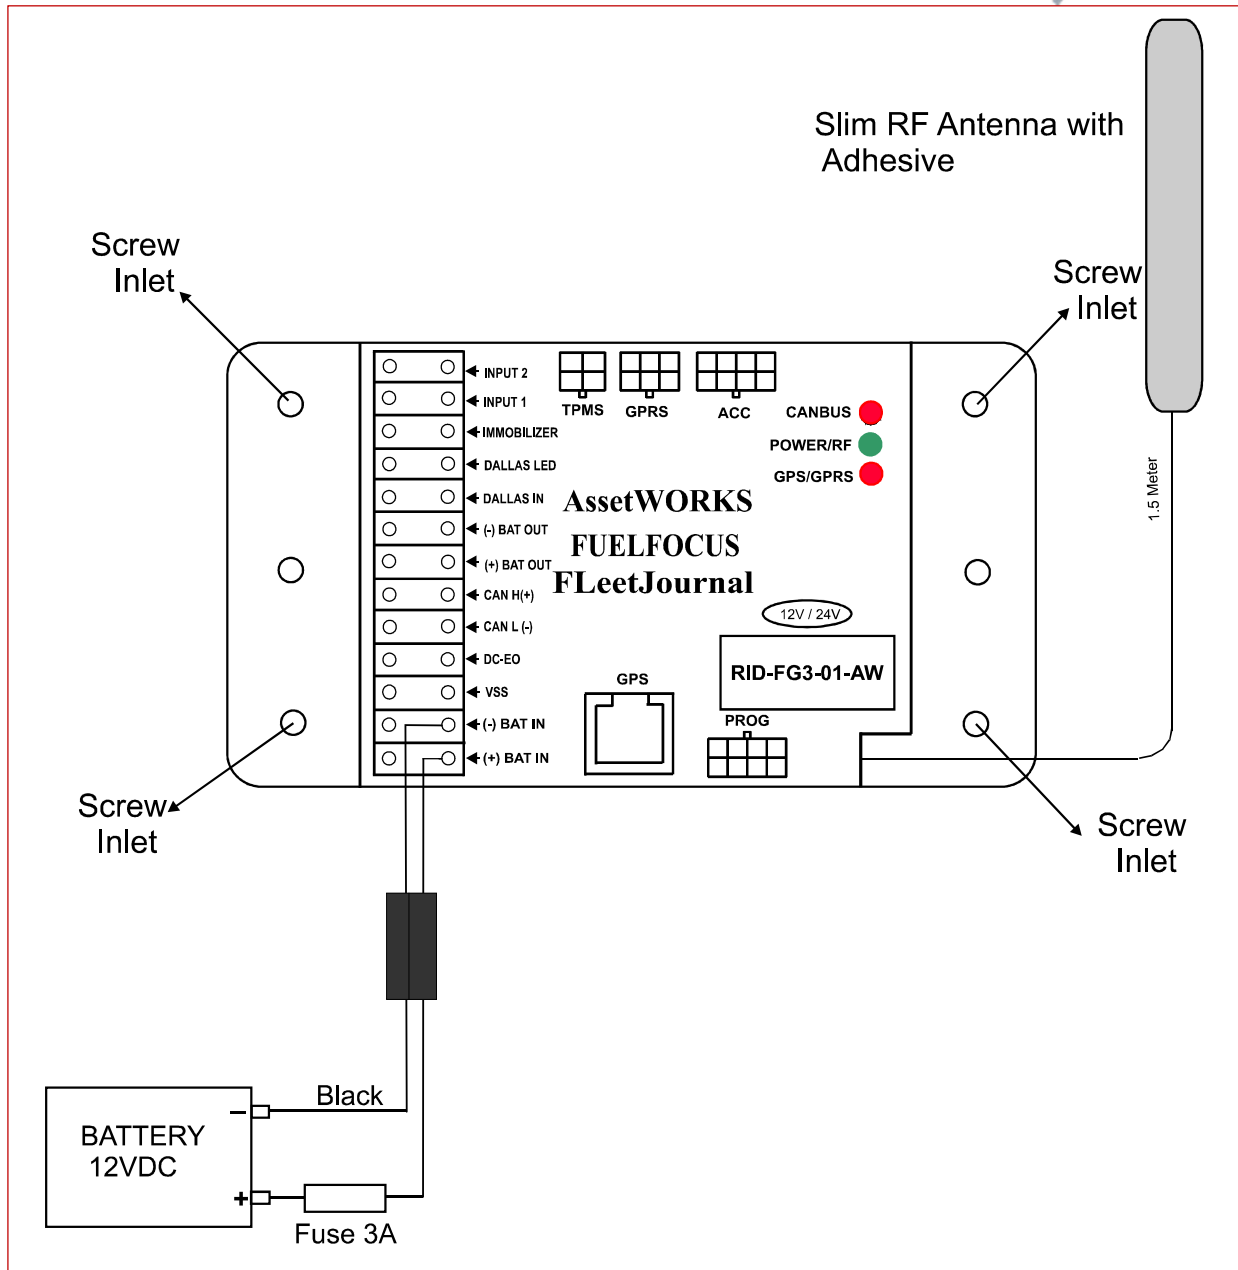

Figure 2: FG3 Wiring Diagram
- Drill at least two 1/8" holes for the FG3 mounting. Use the FG3 to mark the holes (refer to Figure 2: FG3 Wiring Diagram)
Run a wire from the vehicle ignition switch (or start/stop button on some hybrid models) to the DC-EO terminal on the FG3 (refer to Figure 2).